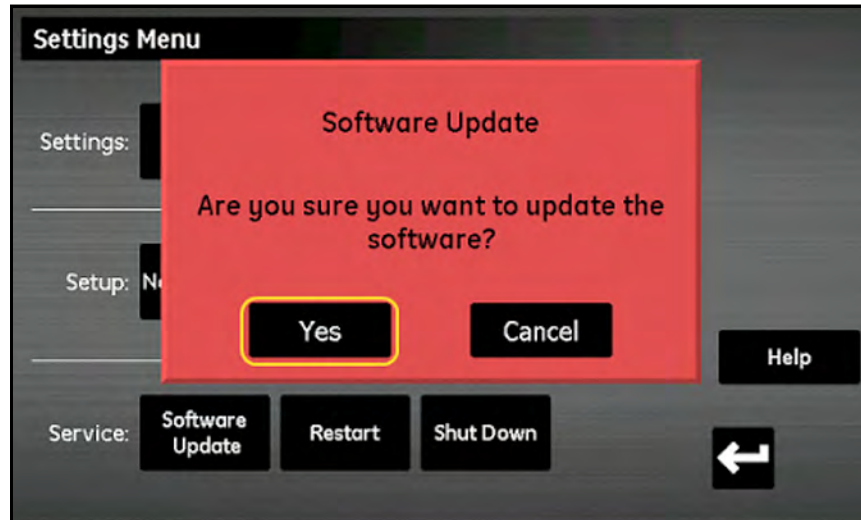

Figure 88: Update Confirmation
6. The moisture.IQ prompts you to confirm you want to update the software (see *Figure 88* below). Tap the **Yes** button.